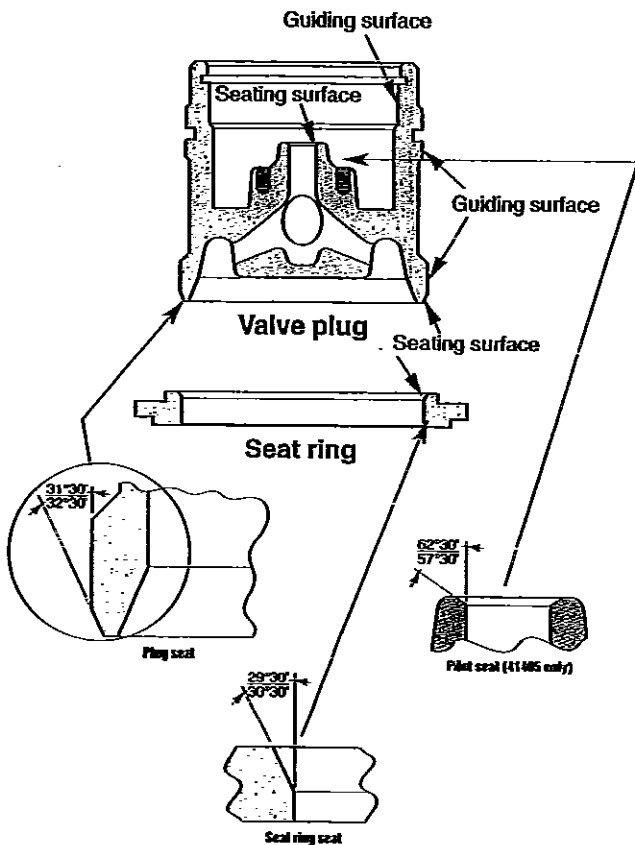

Figure 6
5.2.2 Sealing surfaces (figure 6)
However, not more than 0.25 mm of metal must be removed in the case of a 50, 80 or 100 mm (2", 3" or 4") valve or more than 0.4 mm in the case of a 150 to 400 mm (6" to 16") valve. Make sure that the seating angle indicated in Figure 6 is respected.